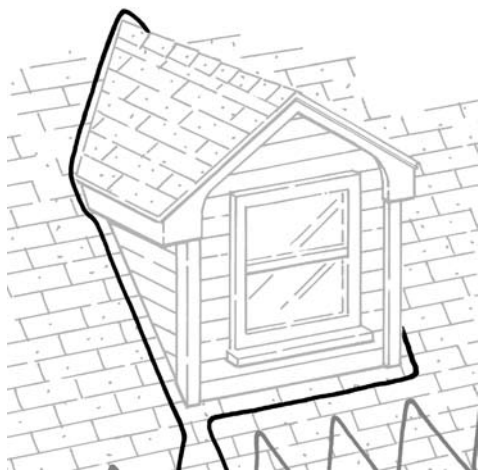

Figure 7. Cable pattern around a dormer
- **Pattern for dormers:** To treat a problem dormer area, the cable should be arranged up and around the dormer as shown in Figure 7.